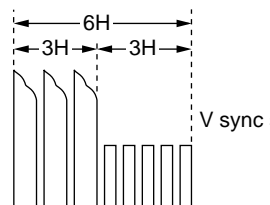

Figure 5.1.1
- 4) Select the address 30h, set the sync slope of oscilloscope to (-), and adjust the data with "REW" and "FF" so that the interval between the trigger point and the V sync signal is set to 6H, and fix the data with the "PLAY" button. (See Figure 5.1.1.)